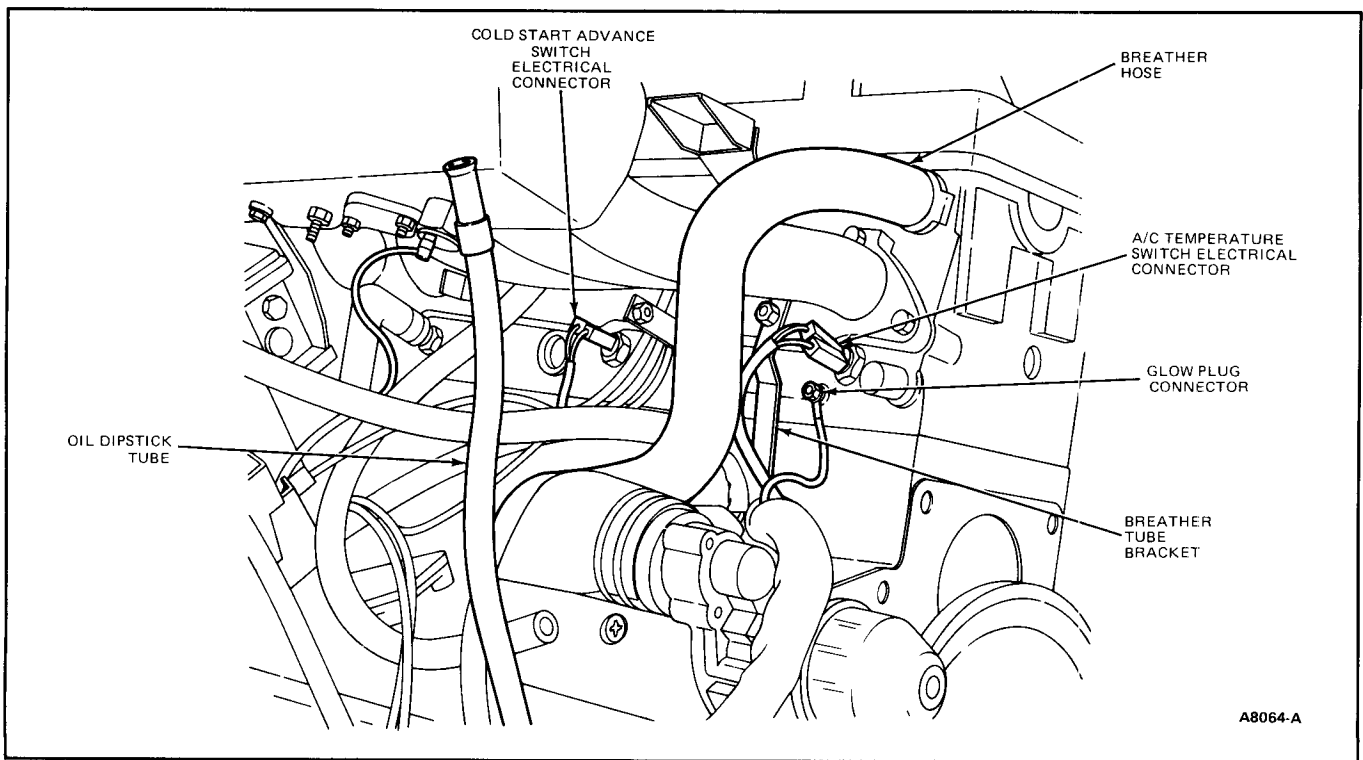

FIG. 20 Engine—Left Hand Side
4. Disconnect oil dipstick tube clamp from intake manifold and position dipstick out of the way (Fig. 20).
9. Remove clamp attaching oil dipstick tube to intake manifold and position dipstick out of the way (Fig. 20).